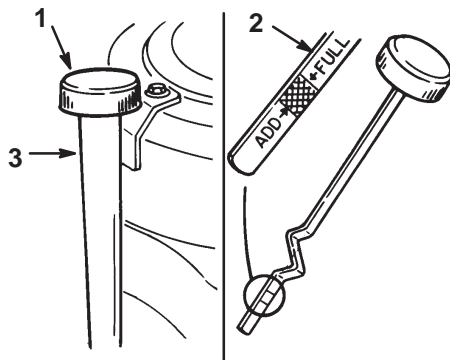

Figure 25
2. Clean around the oil dipstick (Fig. 25) so dirt cannot fall into the filler hole and damage the engine.
3. Unscrew the oil dipstick and wipe the metal end clean (Fig. 25).
4. Slide the oil dipstick fully into the filler tube, do not thread onto tube (Fig. 25). Pull the dipstick out and look at the metal end. If oil level is low, slowly pour only enough oil into the filler tube to raise the level to the "FULL" mark.
5. Slowly pour approximately 80% of the specified amount of oil specified, page 29, into the filler tube (Fig. 25). Now check the oil level; refer to Checking Oil Level, page 30. Slowly add additional oil to bring to "FULL" mark on dipstick.